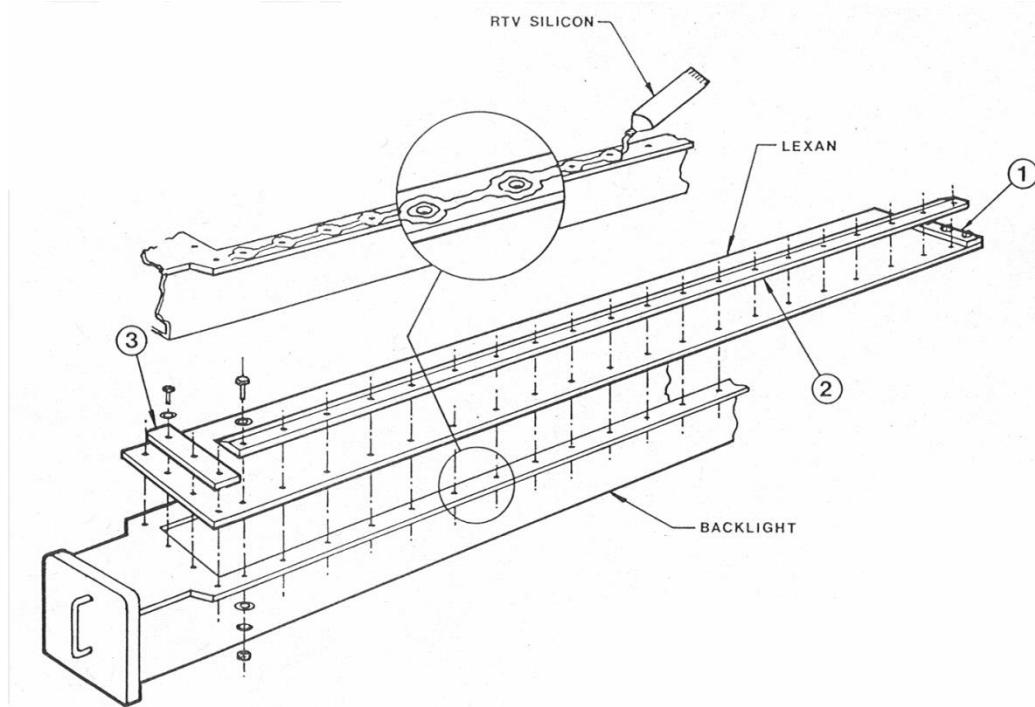

Figure 8.13 Window Installation
- 7) This step requires three people. Form a 3 mm (1/8") bead of RTV Silicone around each window mounting bolt hole on the backlight housing (Figure 8.13). Then join the holes with a 3 mm (1/8") bead. Leave no gaps. The sealant forms a skin in 10 to 15 minutes, at which time its bonding properties diminish. The sealant must be applied quickly and accurately. Two people, each with a tube of sealant should start at the center and work in opposite directions, encircling the mounting holes. A third person should follow, joining the holes.
- 9) Lay a short clamp strip on one end of the window and insert a bolt, with washer, in each mounting hole. Add washers, lock washers and hex nuts, fastening only enough to hold them on the bolts - not enough to put pressure on the window (Figure 8.13). Then place the remaining short clamp strip on the other end, followed by the long clamp strip, in a similar manner.